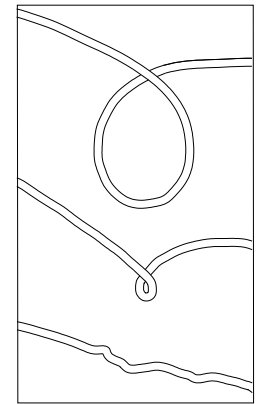

Figure 8
8. Prevent kinks before they occur. (see Figure 8).